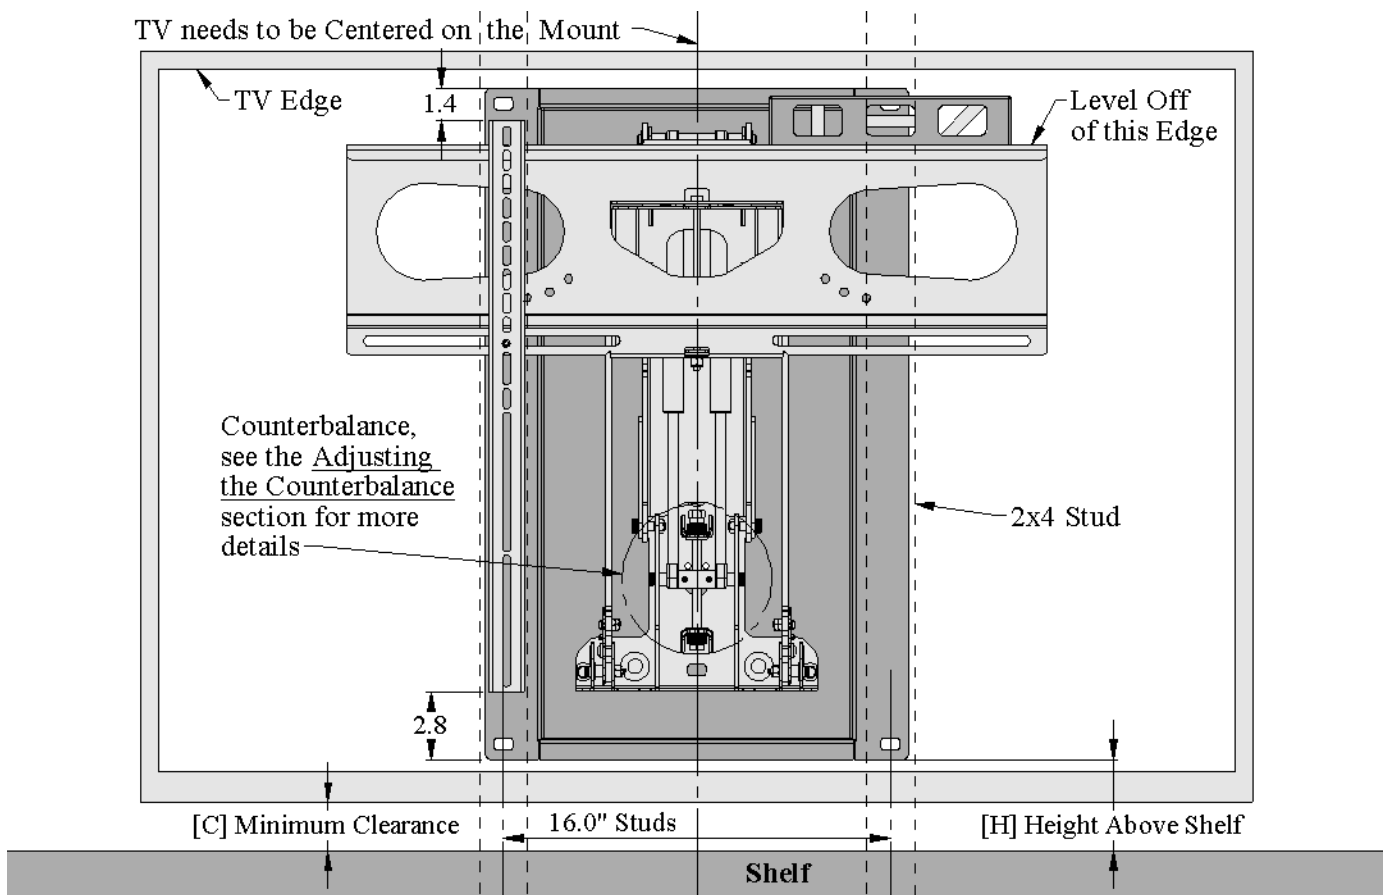

Figure 7, Positioning Mount on the Wall
1. Figure 7 and Figure 8 show how the mount gets laid out in the wall.
4. The Center of the TV should be centered between the 2 16" studs as shown in Figure 7.
1. Figure 7 shows the important things to look for and measure.
4. Figure 7 shows how the Vertical Mounting Bars relate to the Recess Box.
8. Level the mount as shown in Figure 7.
Detail from Figure 7.